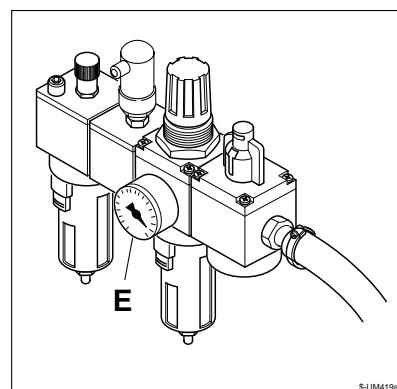

Fig. 4.3a
- Check that the compressed air supply is on. The pressure gauge E (fig. 4.3a) should give a reading of at least 6 BAR.